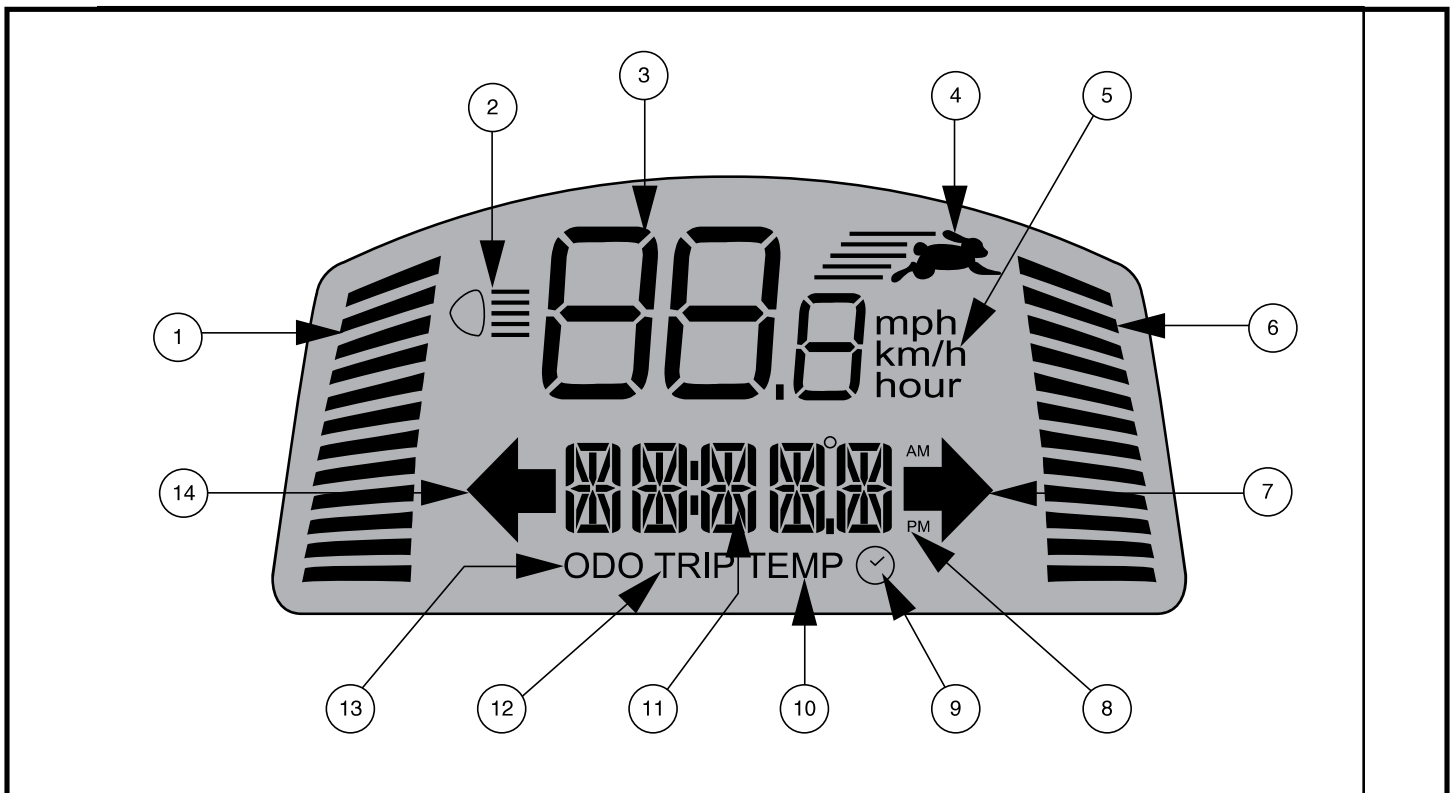

Figure 4. LCD Screen
- Press the High-Low button once to set the speed adjustment to High. The High-Low indicator will display on the LCD screen. **See figure 4.** Using this setting in conjunction with the speed adjustment buttons will allow the scooter to achieve speeds up to the maximum preprogrammed speed for the scooter.
These adjustment buttons enable you to pre-select and limit your scooter's speed. This is indicated by the maximum speed indicator on the LCD screen. **See figure 4.**
NOTE: The more bars shown on the maximum speed indicator, the faster your pre-selected maximum speed will be. See figure 4.
The LCD control panel offers easily intuited feedback information via the LCD screen. See figure 4. The LCD screen is also used during the set-up (activation) of the various control panel settings. See chart 1.